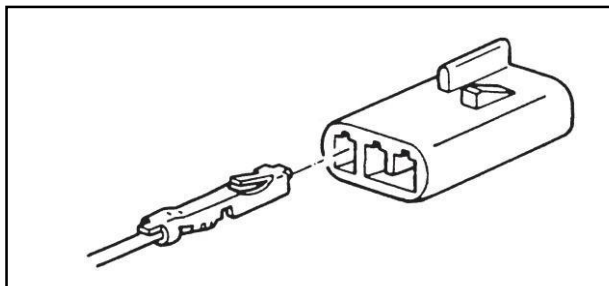

Figure 16
1. Insert the terminal into the connector cavity from the back (non-mating side) of the connector (Figure 16). Push until the terminal “clicks” into the connector cavity.